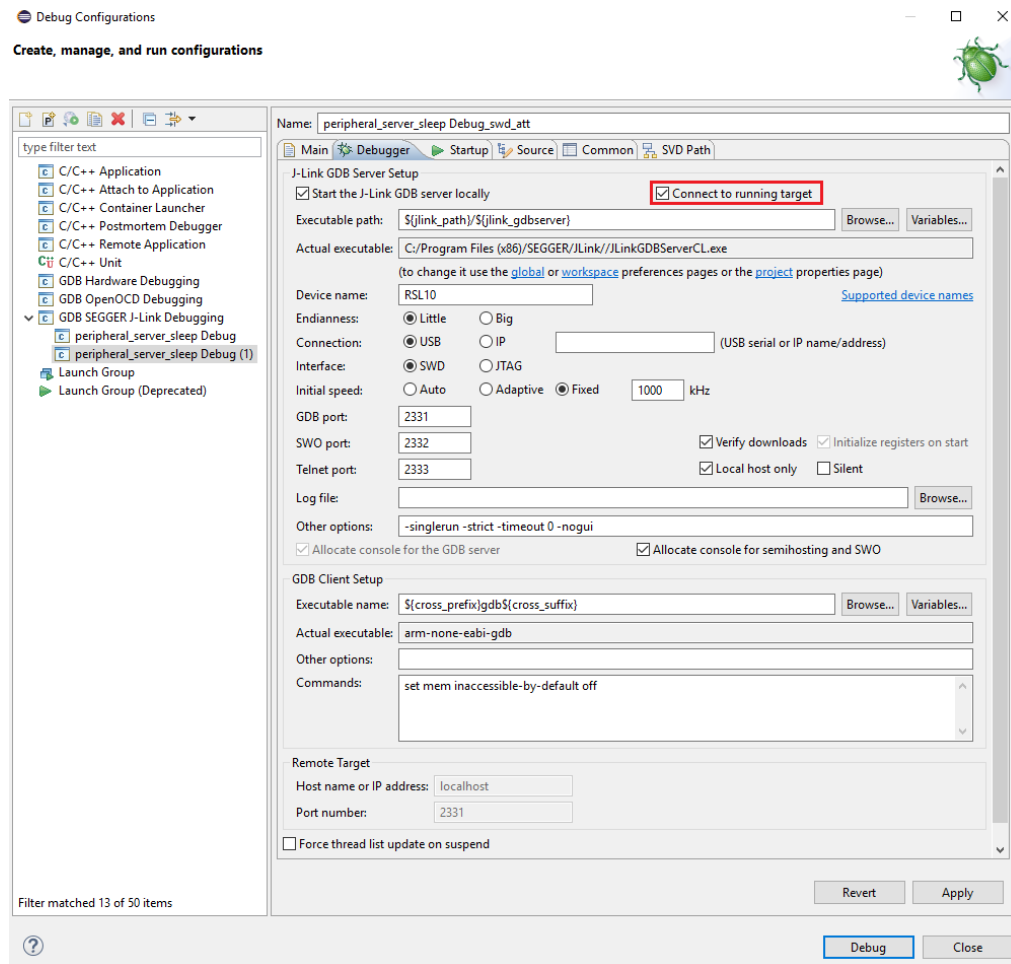
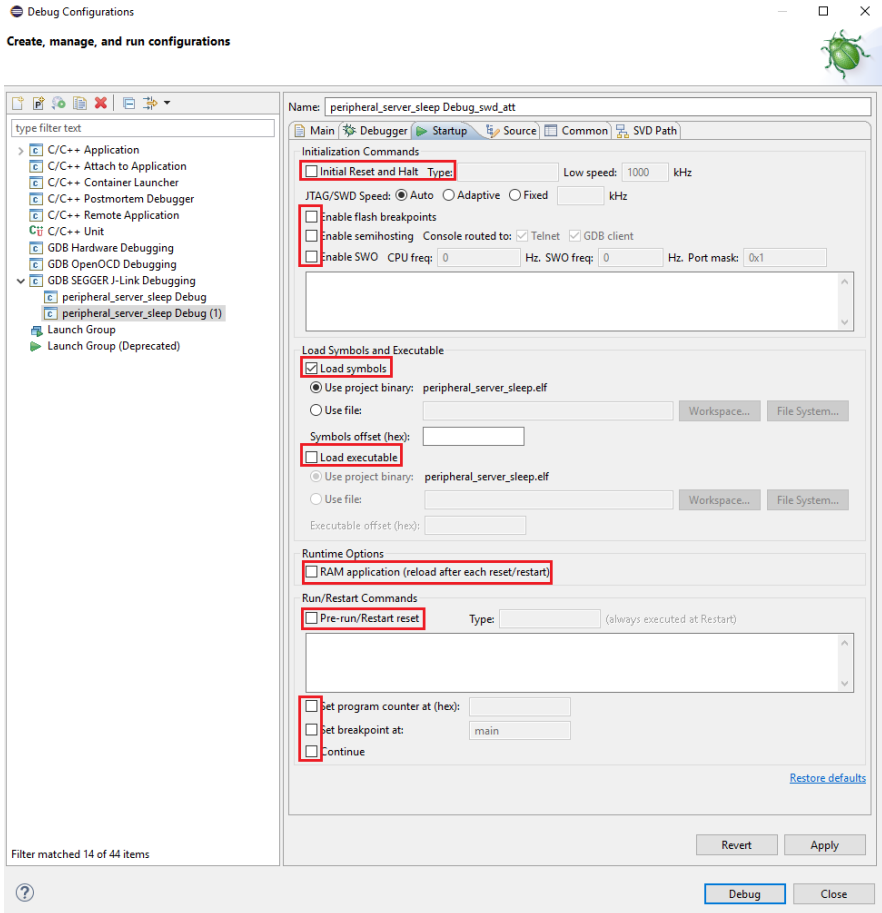

Figure 48. Debugger Tab: Debug Session that Connects to the Running Target
Figure 49. Startup Tab: Debug Session that Connects to the Running Target
- ii. Adjust the displayed values for your configuration then click on **Apply** (see Figure 48, and Figure 49 on page 43).